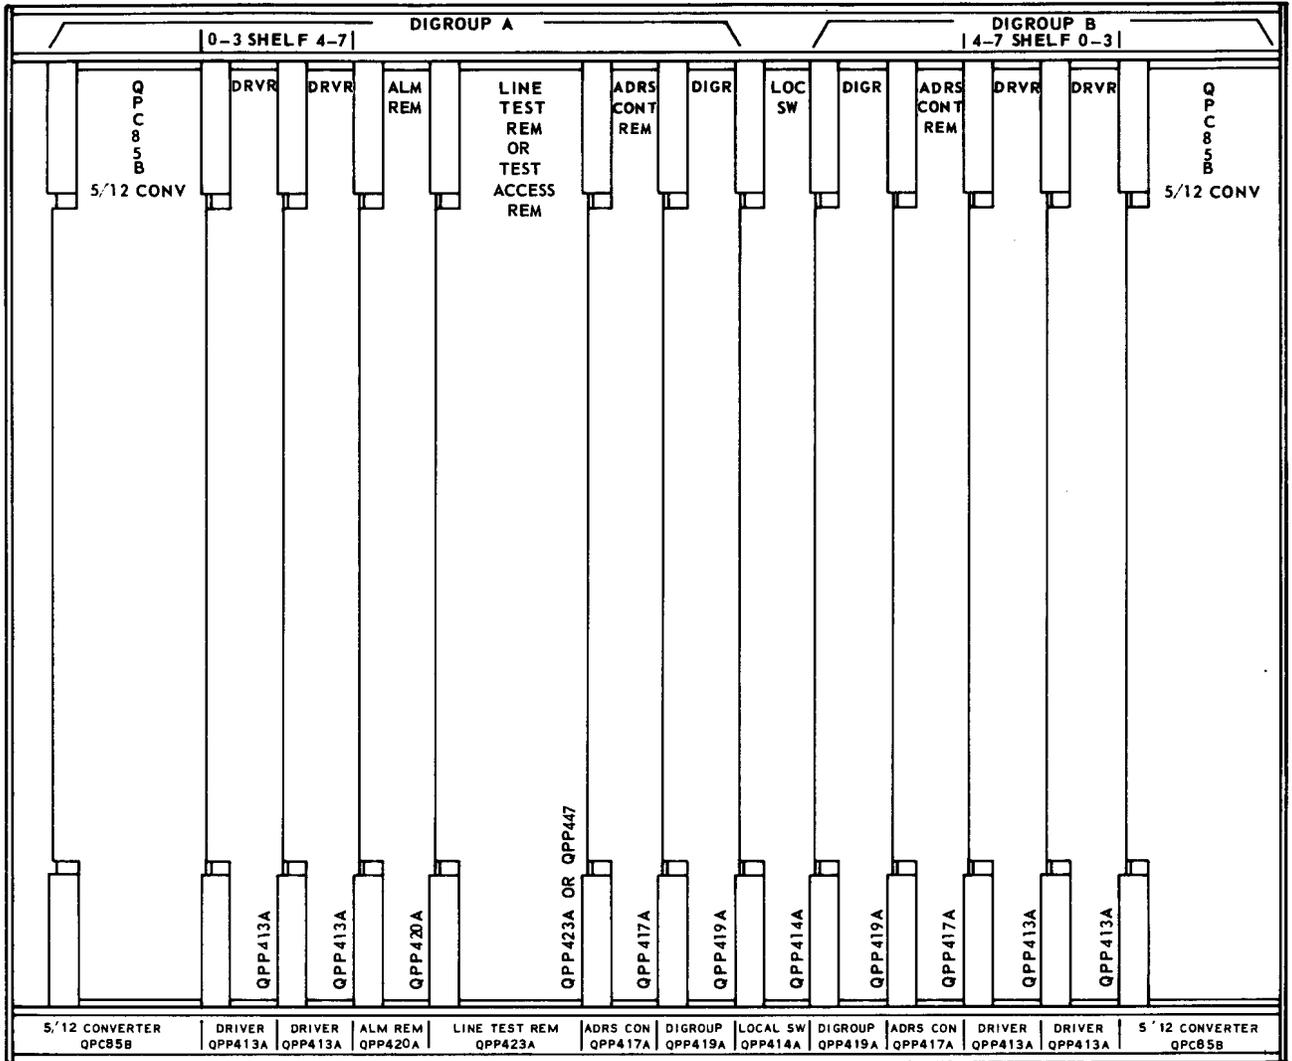

Fig. 5 – Common Shelf Layout
2.13 *Common Shelf (Fig. 5)*. There is one common shelf in the RCT. The common shelf contains all of the digroup-associated transmission circuit packs, plus two common power converters, the alarm-remote, and the line test circuit packs.